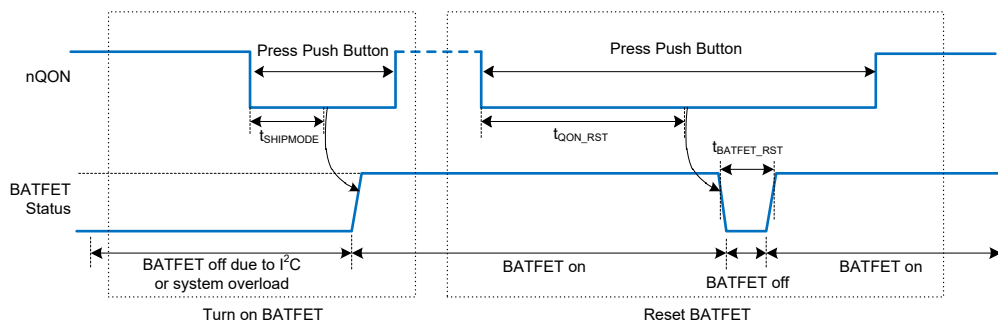

Figure 11. nQON Enable and Reset BATFET Timing
1. Enable BATFET: Applying an nQON logic high to low transition with longer than $t_{SHIPMODE}$ deglitch time (negative pulse) turns on BATFET to exit ship mode (Figure 11 left). HIZ is also enabled (EN_HIZ = 1) when exiting shipping mode. After exiting shipping mode, the host can disable HIZ (EN_HIZ = 0). OTG cannot be enabled until HIZ is disabled (OTG_CONFIG = 1).
2. Reset BATFET: By applying a logic low for a duration of at least t_{QON_RST} to nQON pin while VBUS is not powered and BATFET is allowed to turn on (BATFET_DIS bit = 0), the BATFET turns off for t_{BATFET_RST} and then it is re-enabled resulting in a system power-on reset (Figure 11 right). This function can be disabled by clearing BATFET_RST_EN bit.